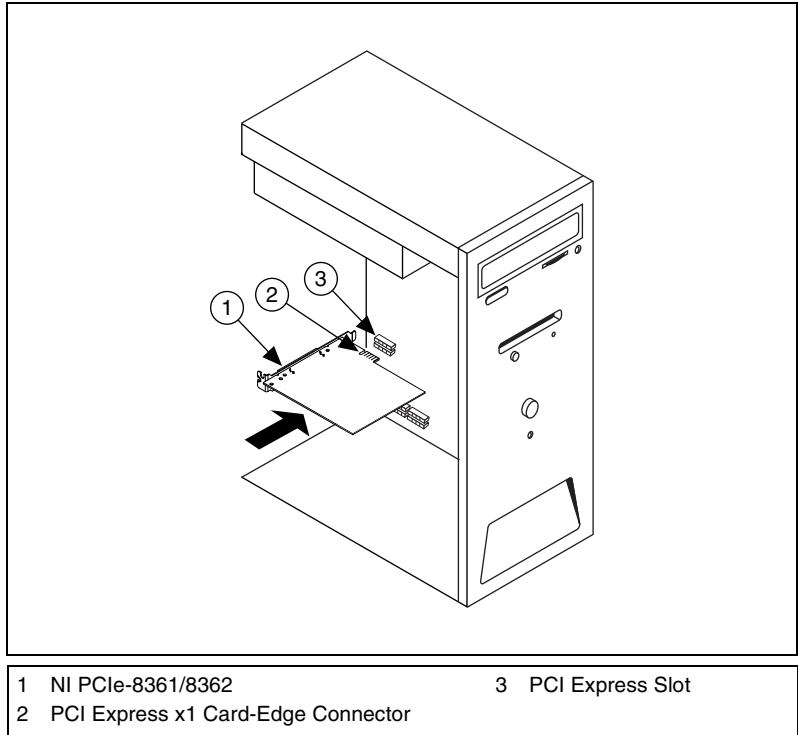

Figure 1. Installing the NI PCIe-8361/8362
7. Line up the NI PCIe-8361/8362 with the slot on the back panel. Slowly push down on the top of the NI PCIe-8361/8362 until its card-edge connector is resting on the expansion slot receptacle. Using slow, evenly distributed pressure, press the NI PCIe-8361/8362 straight down until it seats in the expansion slot, as shown in Figure 1.